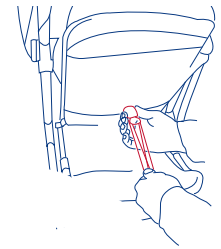

Figure 14.
- The seat has a multiple position recline that is controlled by a cord and spring loaded adjuster behind the seat. To recline the seat, pull back on the adjuster while holding the 2 cords. See figure 13. To place the seat back in a more upright position, grab the adjuster with one hand and pull the loop to the desired position with the other hand. See figure 14. The cord will lock automatically.